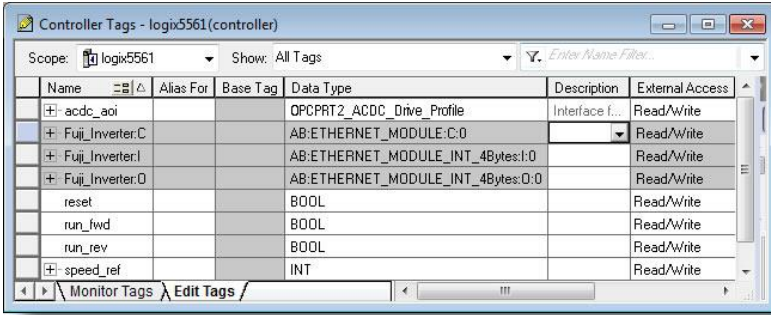

Figure 47: Create AC/DC Drive Profile AOI Tags
- 4) Create the tags in Figure 47.